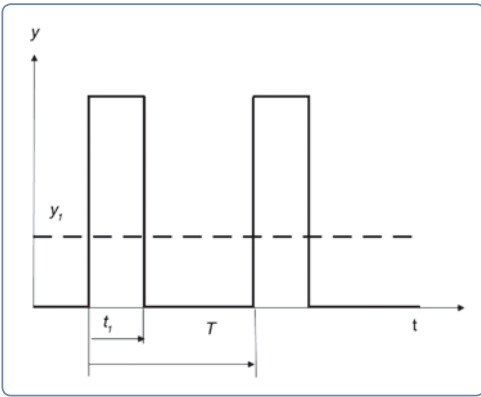

Figure 12: Progress of a rectangular signal with a period  $T$  and a pulse duration  $t_1$  for the generation of an analog signal with the value  $y_1$ .
the pulse duty factor ( $t_i/T$ ), is modulated and afterwards demodulated by a low-pass filter to generate continuous analog DC signals. The resulting value  $y_i$  corresponds to the average of the PWM signal (see Figures 12 and 13). The PWM-loads of the Sensors have low-pass filters which are not able to eliminate all AC fractions of the used PWM frequency of 5 kHz due to technical impossibilities. Therefore, the current signals of the 4–20 mA interfaces are still overlaid by a certain AC which should be masked by lag smearing or input filters of the current input card of the process control system (PCS). Recommended PCS settings are a sampling rate below 3.5 kHz, an averaging over more than 1 s, and the use of galvanically separated inputs to avoid oscillations. It is also possible to use mathematical functions or isolating amplifiers for signal processing filtering if necessary. For detailed technical advice about suitable isolating amplifiers, please contact Hamilton technical support.
**⚠ ATTENTION! The Arc sensor and VisiFerm DO generates the 4-20 mA signals by pulse with modulation (PWM) which is not compatible to all PCS systems. Also a galvanic separation between the power supply and the PCS is necessary for correct sensor functionality when used in 4-20 mA setups. Figure 12 illustrates a solution for the problem.**